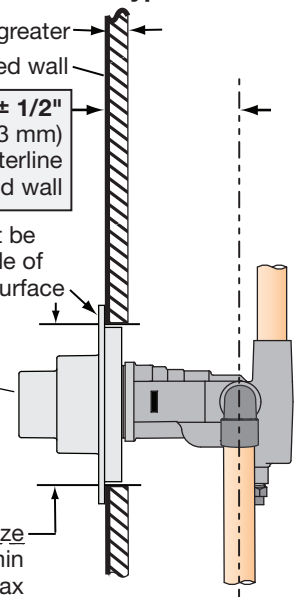

Figure 2 Mounting valve
- Consider whether to use mounting plate by reviewing figure 2 below.
- Reference figure 2 to determine whether shield is required.
Install through cutout hole in wall as specified in figure 2 below and dimension illustration on page 4.
* Notes: (also reference page 2, figure 2 for details)
- (1) Walls for using T-177 mounting plate (MP)
- (2) Dry wall, plaster or other type walls 1/2" or greater
- (3) Dimensions subject to change without notice